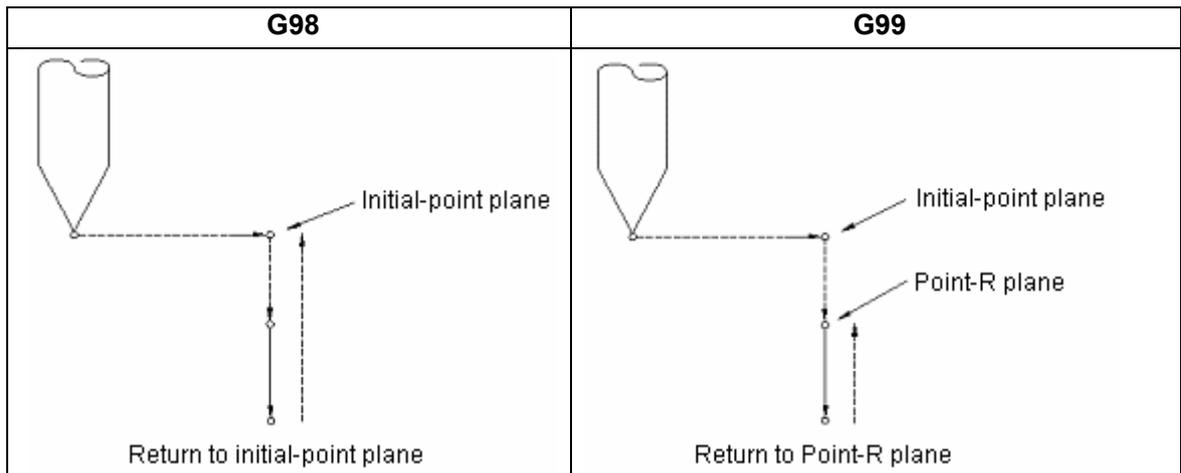

Fig. 7.2.3 Initial level and point R plane
(B) The return operation is performed, the tool is returned to the point R plane or the initial level plane which is determined by the specification of G98 or G99. Refer to the Fig. 7.2.3.